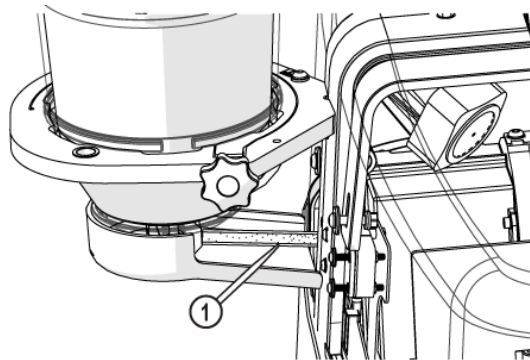

Figure 243
11. Observe the **garnet abrasive tube** [1] at the **hopper** to verify the garnet abrasive is flowing, then click **Close** when the test is complete (Figure 243).